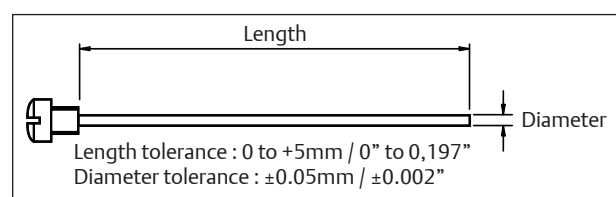

Fig. 6 SAFEKEY Dimensions
(Pistons moving inwards, Fig. 6).
3. Pass the correct Hytork Retractor Rod through the End Cap (Fig.6) and screw it into
- **For XL 26 to XL681** the Pistons (20)
7. When the End Caps are in place and the SAFEKEYS fitted correctly, remove the Hytork Retractor Rods and replace the Sealing Bolts (28) and seals (29).